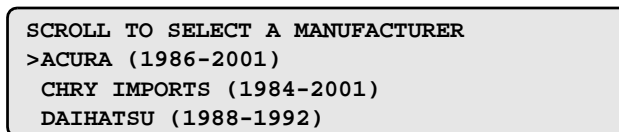

Figure 3-8 Sample Manufacturer Selection menu (to 2001)
The Manufacturer Selection menu displays (Figure 3-8).
1. From the Manufacturer Selection menu (Figure 3-8), select the vehicle manufacturer.